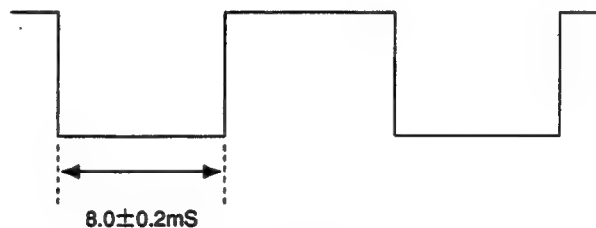

Fig.5-7
- 5) Connect the probe of an oscilloscope to IC502 ⑦ PIN. Adjust **[V DELAY]** so that the output waveform will be as shown in Fig.5-7.